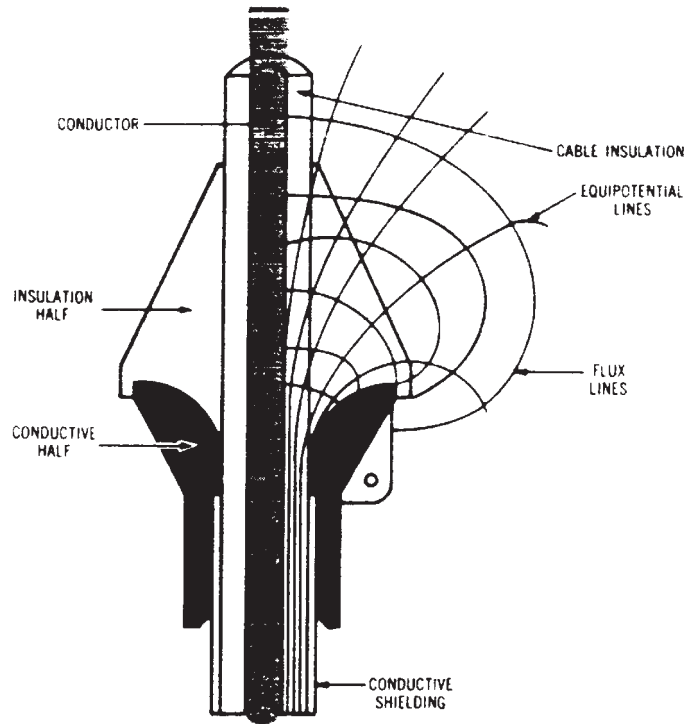

Figure 3 Pre-molded stress cone employing geometric stress grading
B. Pre-molded Termination: This is another type of geometric stress graded termination that acts like a hand wrapped stress cone but is pre-molded of EPDM insulation by the termination manufacturer and factory tested. They are sized in ranges of insulation OD's and require silicone grease to assist in slipping them onto the cable end. The silicone grease also displaces any air within the termination, which can discharge. Pre-molded terminations include pre-molded stress cones (see Fig. 3) and elbows.